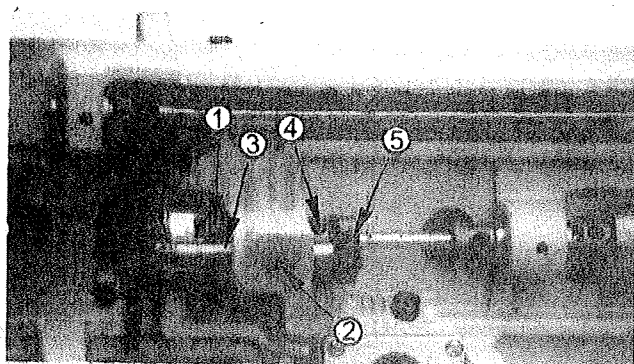
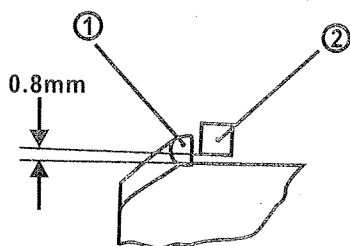

Fig.20
Fig.21
2. To adjust the clearance between the hook point and the needle hollow, loosen the two screws (①, Fig. 20) and move the hook to the right or to the left as may require. Please note one of the two screws is placed on the V ditch of hook shaft. Therefore, keep the screw on V ditch during adjustment. Re-tighten the screws.
I) Clearance between the opener and projection of hook (Fig.20 and 21):
1. Loosen the screw (②, Fig. 20)
2. Adjust the clearance between projection of hook (①, Fig. 21) and the opener (②, Fig. 21) by means of movement of thread releasing shaft bushing (③, Fig. 20) to the right or to the left as may be required. The standard clearance between the two parts is 0.8mm as shown Fig. 21.
3. Tighten the screw (②, Fig. 20) securely.
Place the one of screws (④, Fig. 20) which is indicated by "S" on V ditch of the hook shaft.
III) Adjustment of operation: (Fig. 20 and 22)
3. This adjustment can be done by loosening the screw (⑤, Fig. 20)